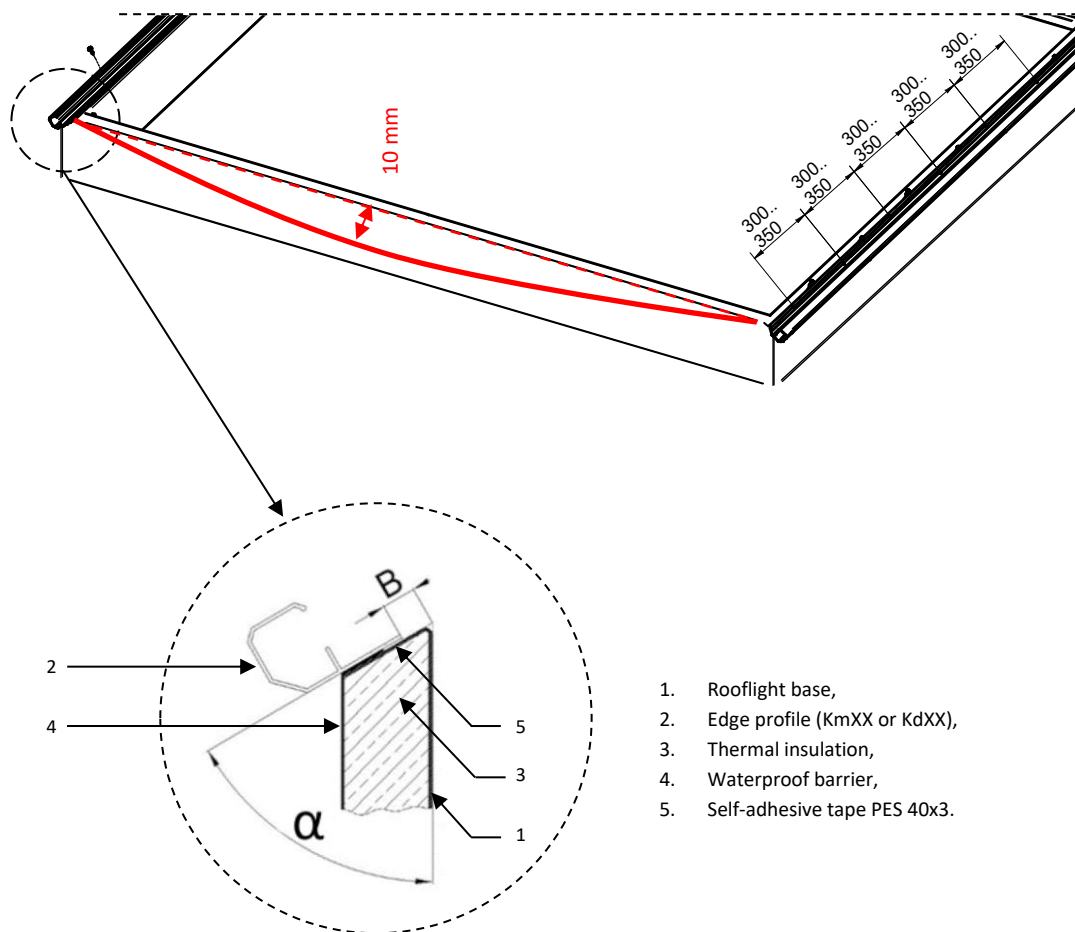

Figure 25 Installation of edge profiles according to the attachment to the installation manual
2. Apply self-adhesive tape PES 40x3 to the assembled and insulated base, and then fix the edge profiles using self-drilling screws $\varnothing 6.3 \times 32$ mm keeping the distance between the screws 300 – 350 mm, and positioning them so that at least 2 screws fall out between the holes for the screws tightening the pressure profiles. The position of the edge profile in relation to the base should be as shown in (Figure 25 Installation of edge profiles according to the attachment to the installation manual). The correct B dimension can be obtained by laying the edge profiles parallel to each other along the entire length. The B dimension can be obtained by fixing the position of the edge profiles with the tympanum panel. It is very important that the edge profiles are arranged parallel to each other i.e. the distance between them is constant (Figure 24 Layout of the edge profiles following the principle of parallel orientation).